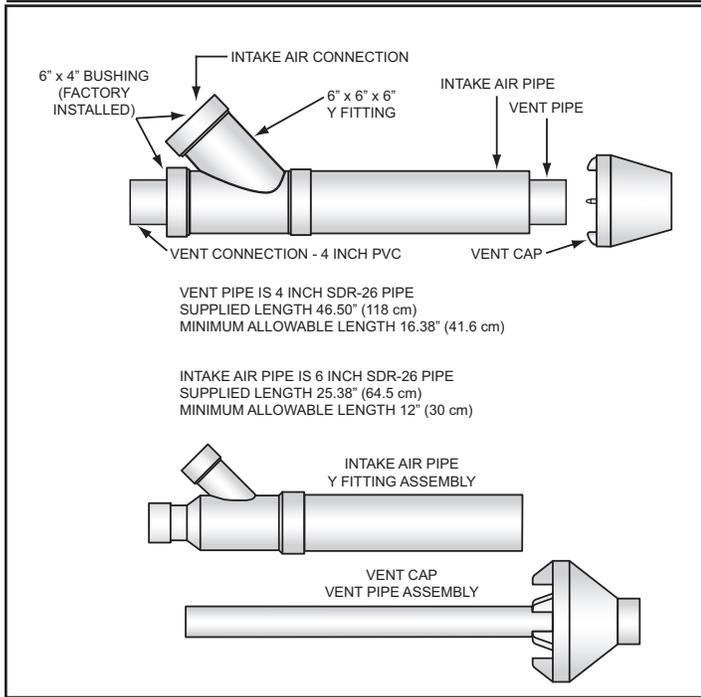
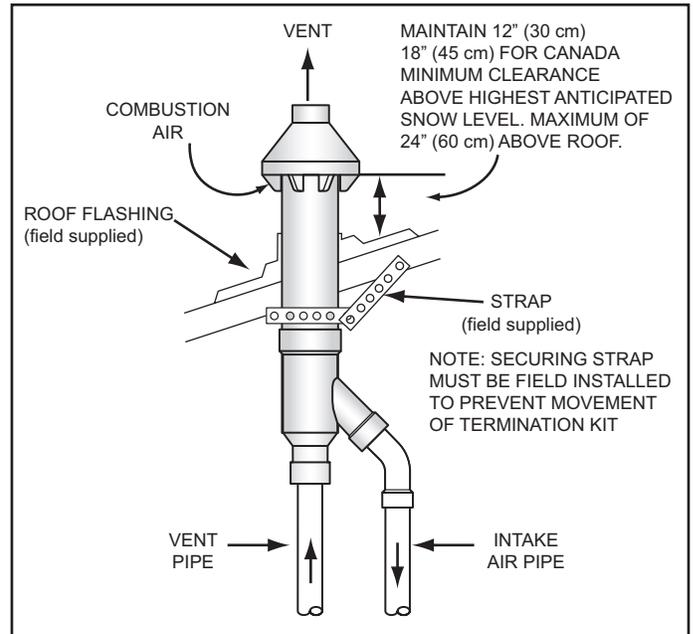
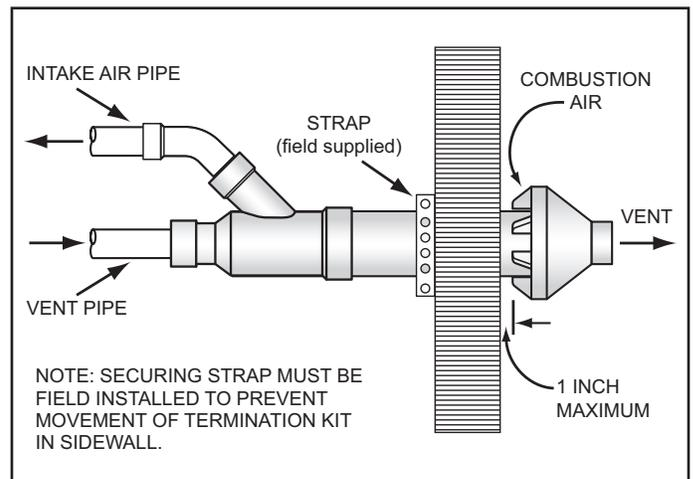

Figure 25. Six-Inch Concentric Termination Kit
Figure 26. Six-Inch Concentric Termination - Vertical Installation
Figure 27. Six-Inch Concentric Termination - Sidewall Installation
3. When installing a concentric termination vertically through the roof; ensure that all exterior vertical clearance requirements for the concentric termination, shown in *Figure 24* and *Figure 26* (page 31), are being maintained. These clearances and those cited by local and national codes must be maintained.
10. See *Figure 25* for the minimum lengths allowed for the 6 inch concentric termination.
Assemble and install the 6 inch concentric termination. See *Figure 25*, *Figure 26*, and *Figure 27* for these instructions: